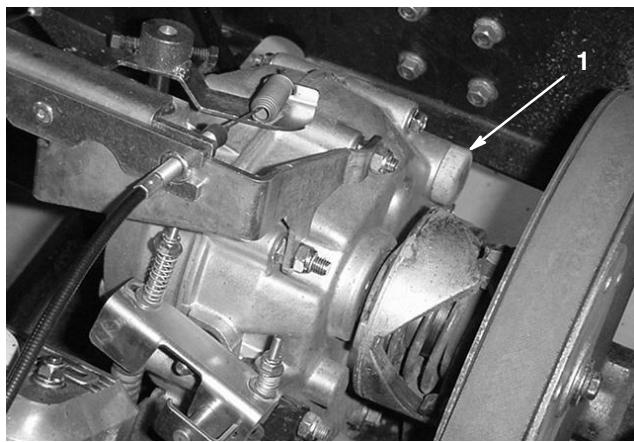

Figure 43
- Fill the reservoir (Fig. 43) with approximately 1-1/2 qt. (1.4 liters) of SAE 10W30 motor oil or until the oil level is at the bottom of the level indicator hole (Fig. 42).